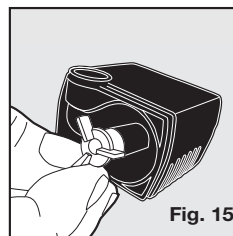

Fig. 15
4. Once the stator is removed, remove the impeller (white, 3-bladed propeller). The impeller is held in place by a magnet, simply use a fingernail to get underneath a blade and lift out (**Fig. 15**).